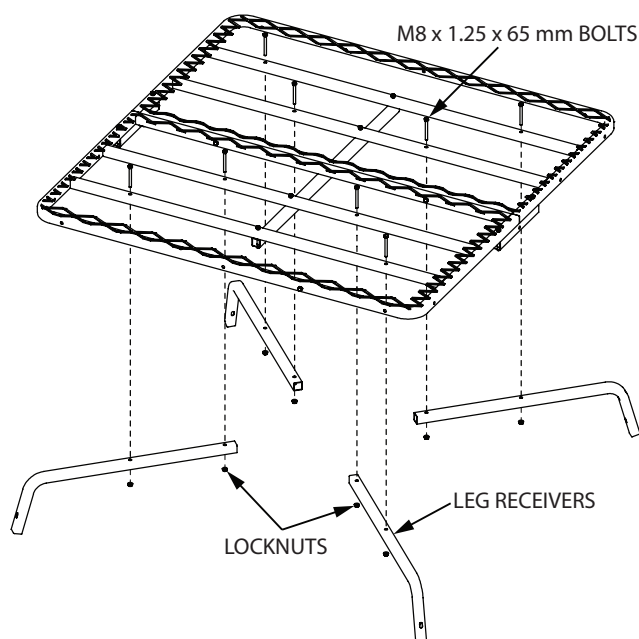

FIGURE 2
4. Attach (4) leg receivers (TWR25) to the bottom four corners of platform using (8) provided M8 x 1.25 x 65 mm bolts and locknuts. **SEE FIGURE 2.**